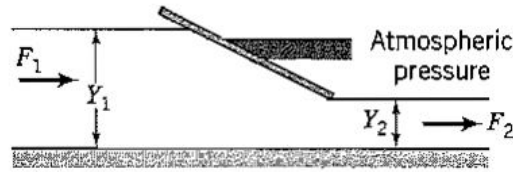

Figure P10.64
10.64 Consider the steady, smooth flow of water in an open channel of constant width W , as shown in Figure P10.64. A deflector plate causes the water to accelerate to a supercritical